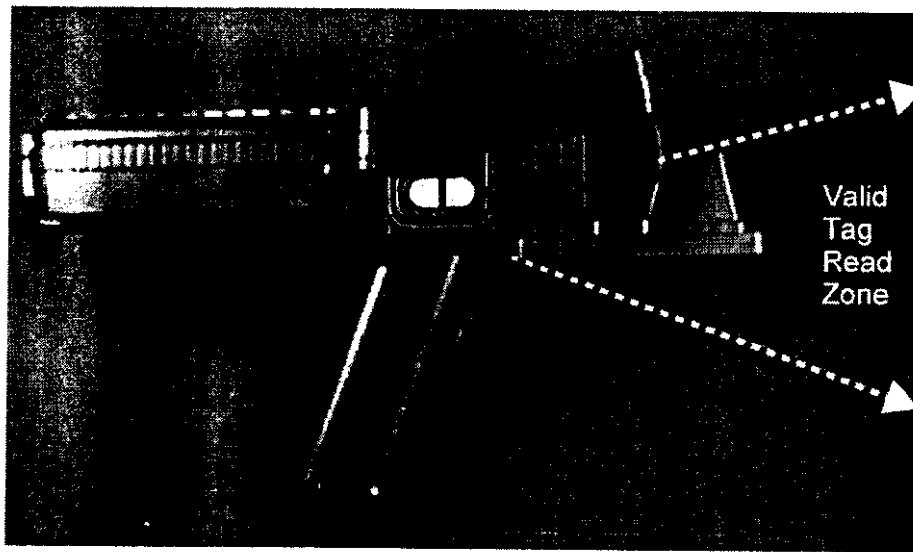

Figure 6 Profile of IT1110 Hand Held Reader Showing Transponder Read Zone
2. Stand in front of parked vehicle and aim hand held reader at the transponder. The hand held reader can read a transponder even if it is aimed slightly above or below the transponder. See Figure 6 for valid transponder read zone. The optimal distance for reading a transponder is up to four ft from tip of reader to transponder.